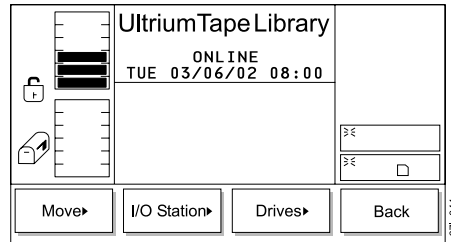

Figure 159. Command Menu
1. From the Main Menu's initial screen, press the button below the **Command** softkey. The Command Menu displays (see Figure 159).